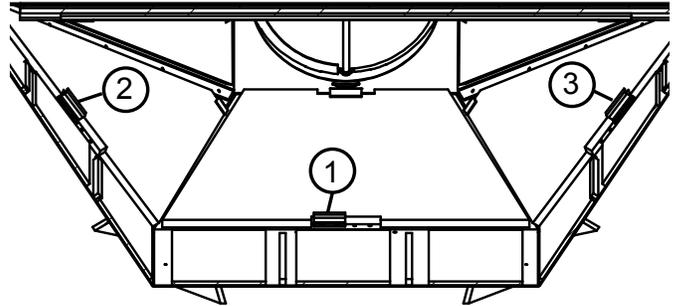

FIG.1
- A.** Remove screws from brackets and slide rear panel out of smoke chamber. Repeat for both side panels. **(FIG.1)**
**F.** Slide side panels then rear panel into smoke chamber and install brackets. **(FIG.1)**